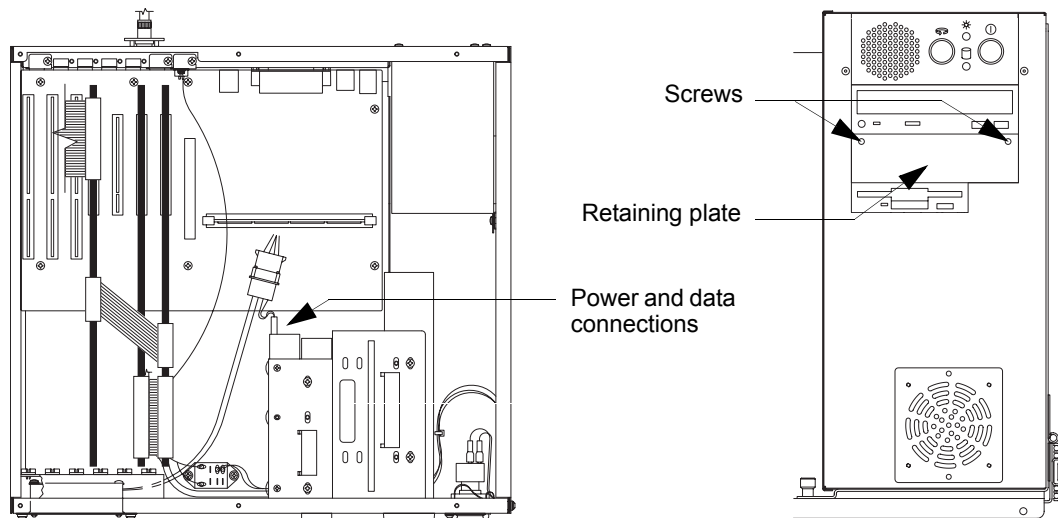

Figure 9-33 Location of the Hard Drive
4. Disconnect the power and data connections at the rear of the drive; see Figure 9-33.